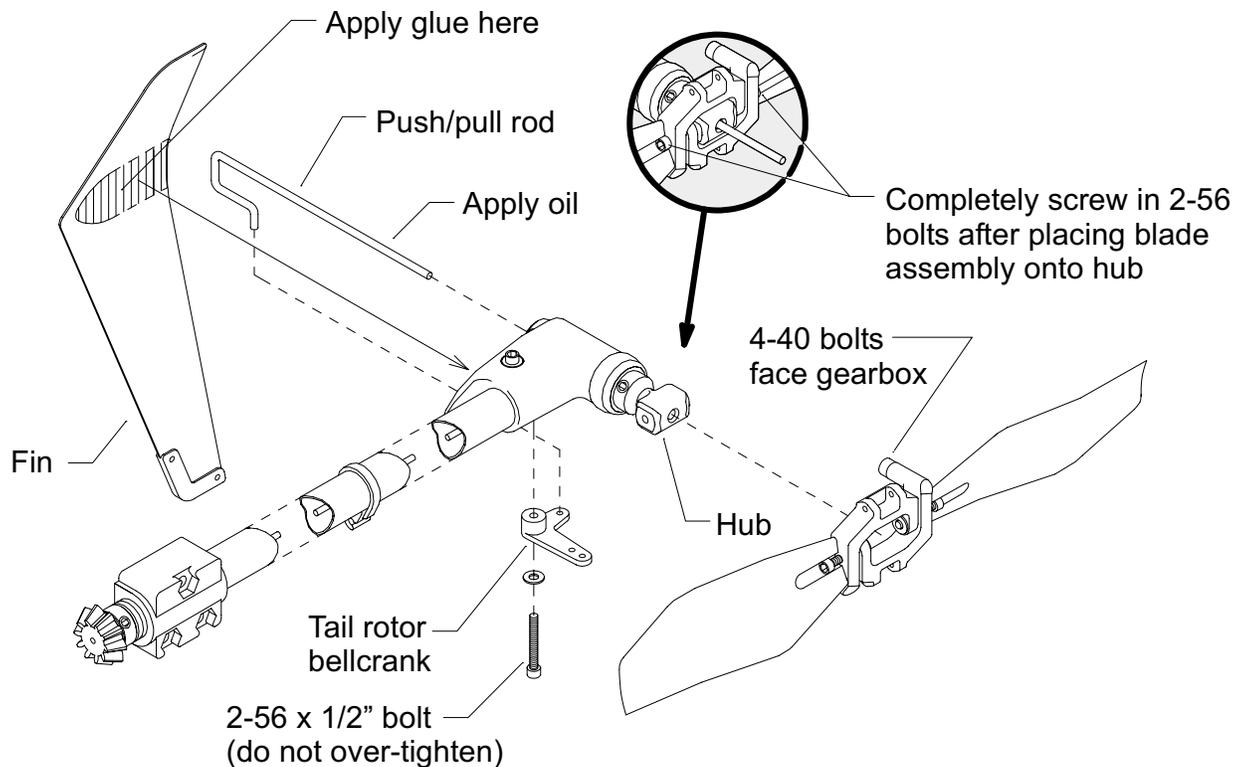

**Figure 10-3.**
- ❑ 15. Screw a 4-40 x 1/4" bolt counterweight into each tail rotor blade as shown in Fig. 10-3. Do not over tighten the bolts or the plastic will split.